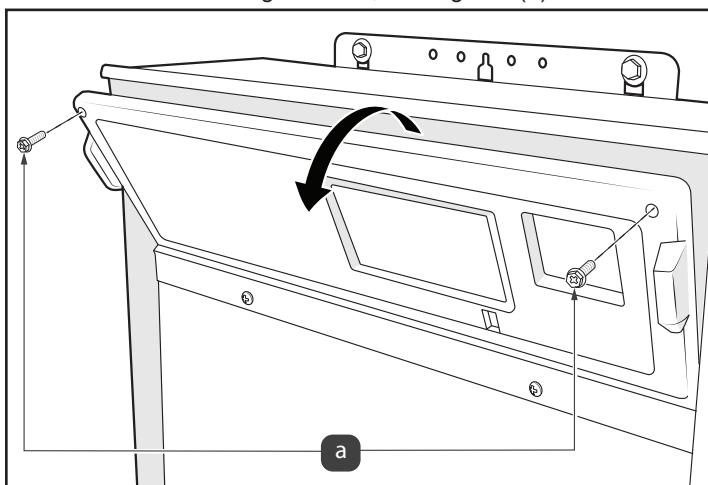

Figure 9. Remove Pentair® Control Panel Screws
8. Remove the top two screws on Pentair control panel, swing panel down to allow access to wiring behind it, see Figure 9(a).